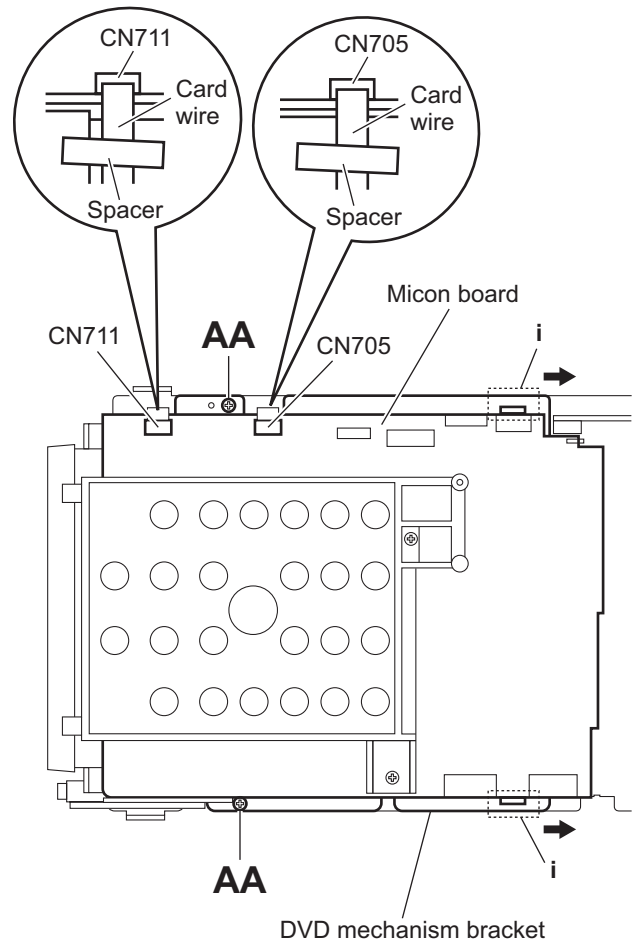

Fig.21
3.1.16 Removing the DVD mechanism assembly (See Figs.21 and 22)
- (1) From the top side of the main body, disconnect the card wires from the connectors (CN705 and CN711) on the micon board. (See Fig.21.)
- (2) From the left side of the main body, remove the spacers fixing the card wires. (See Fig.21.)
- (3) From the top side of the main body, remove the two screws **AA** attaching the DVD mechanism bracket. (See Fig.21.)
- (4) Move the DVD mechanism bracket in the direction of the arrow to release the claws **i** and remove the DVD mechanism bracket. (See Fig.21.)